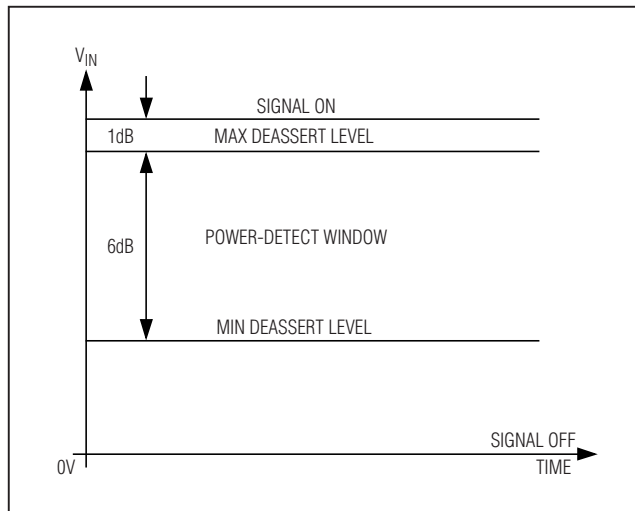

Figure 2. LOS Deassert Threshold Set 1dB Below the Minimum by Receiver Sensitivity (for Selected R_{TH})
- Note 8:** The signal at the input is switched between two amplitudes, Signal_ON and Signal_OFF, as shown in Figure 2.